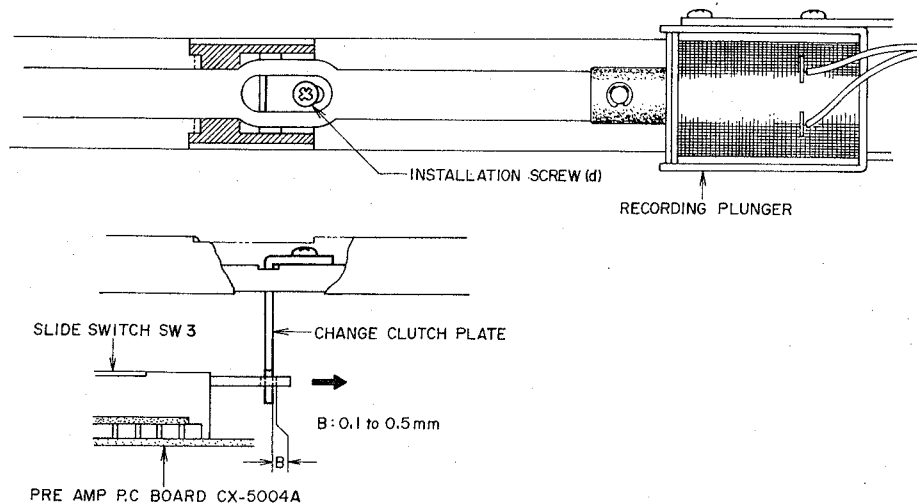

Fig. 10
- b) Put in forward mode. Loosen installation screw(d) in Fig. 10 and move the switch clutch board in the direction of the arrows, then pull the slide switch SW3 out to its fullest extent. Release only the switch clutch board 0.1 to 0.5 mm and tighten installation screw(d).